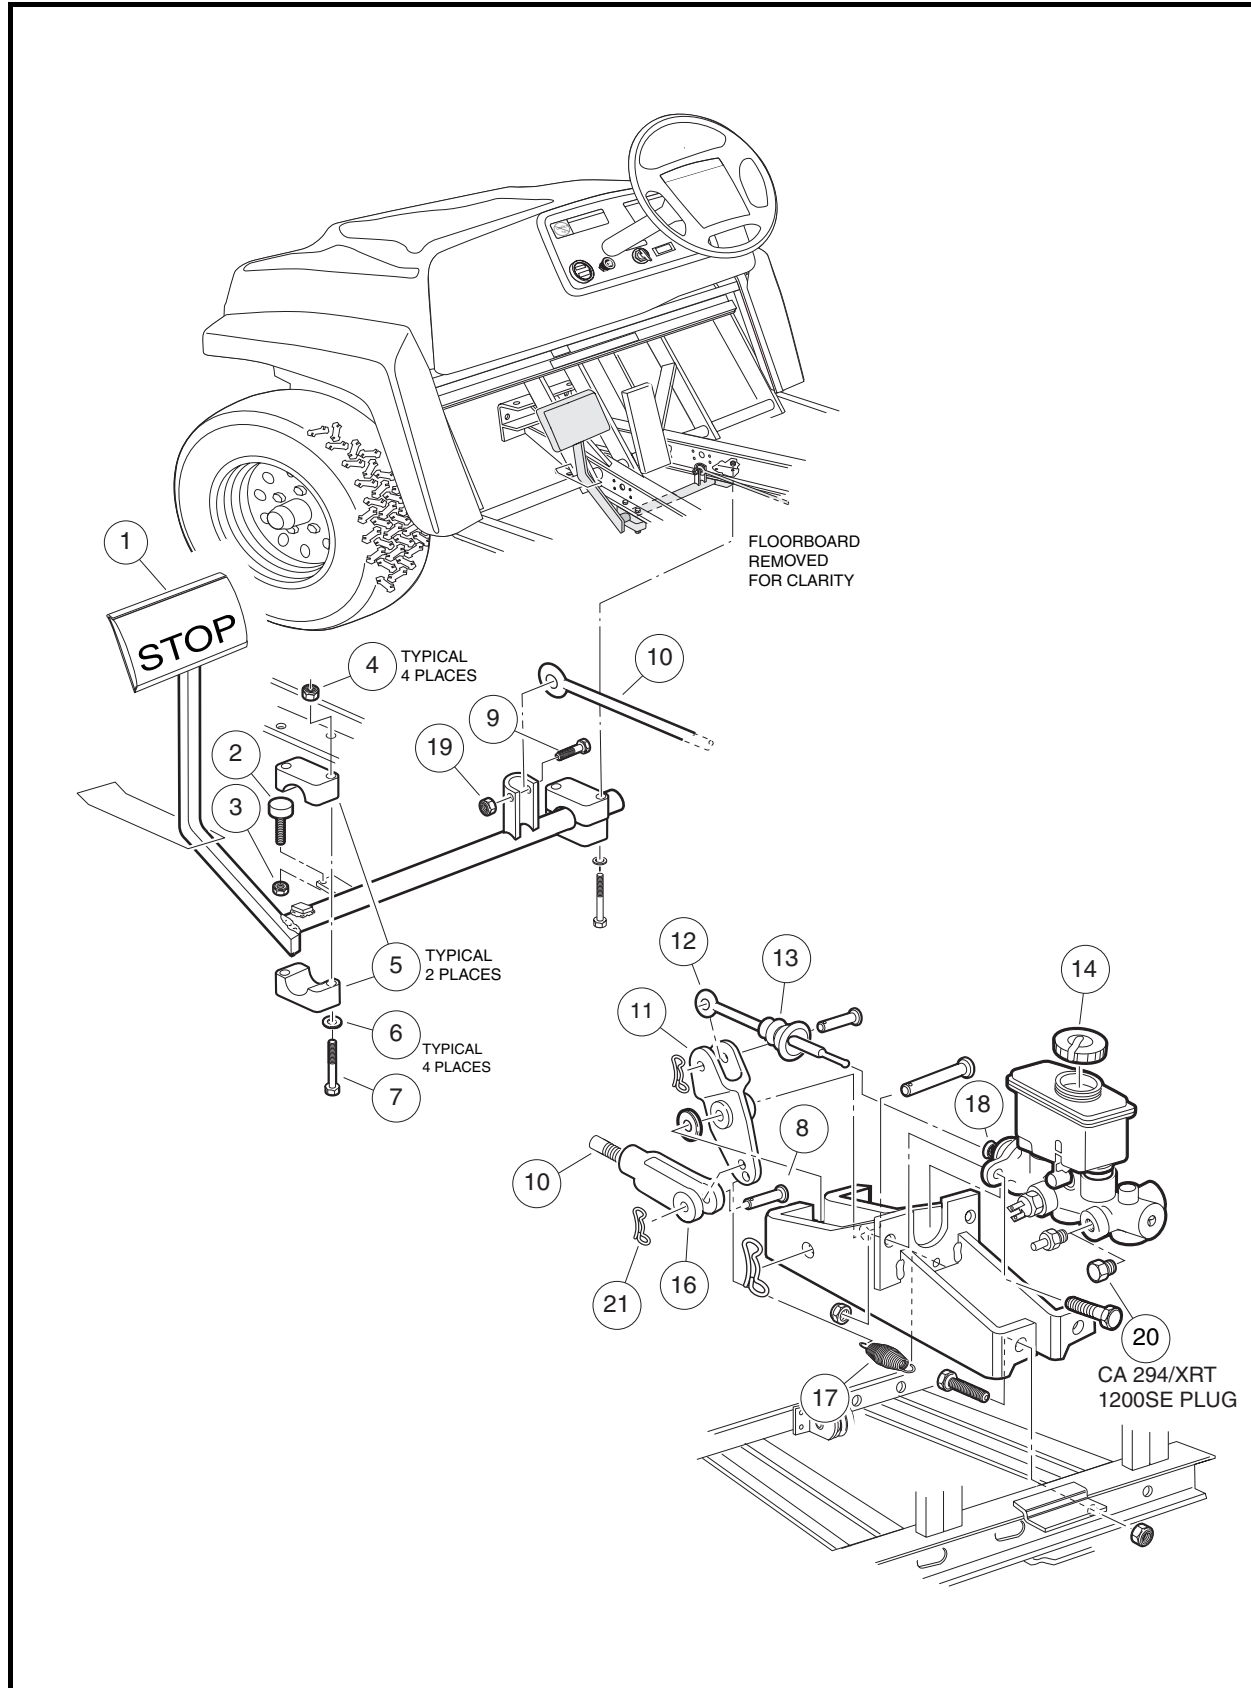
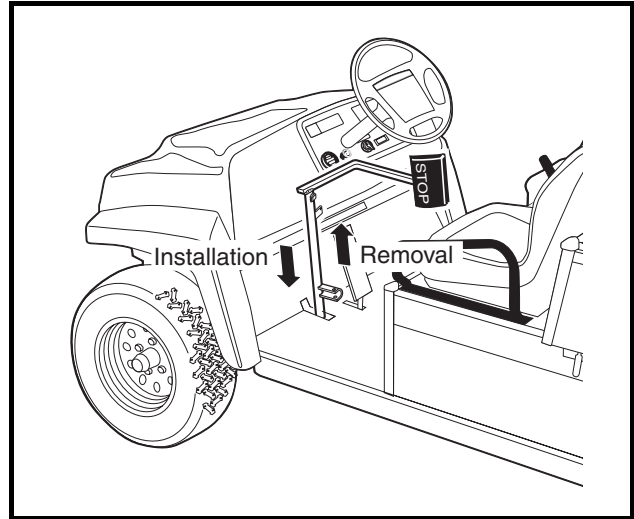
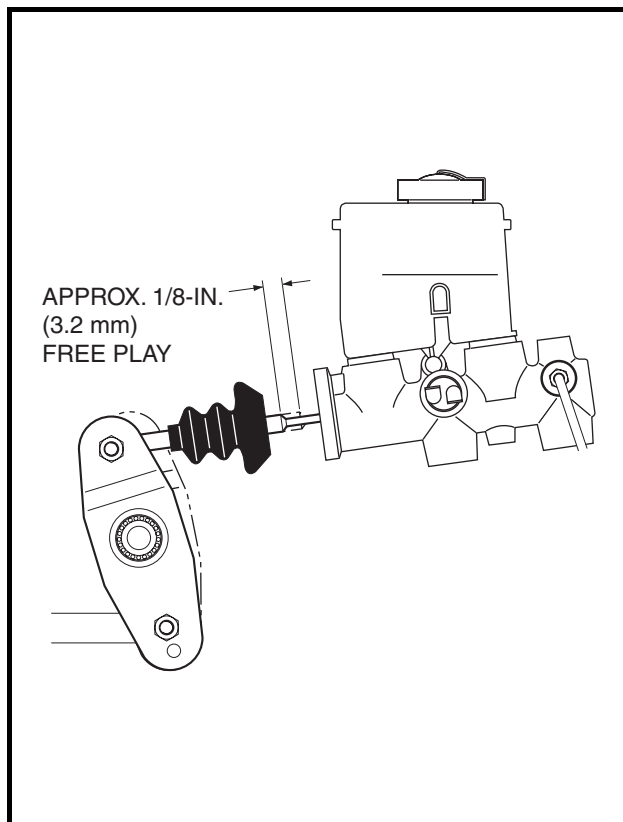

Figure 5-1 Brake Pedal Assembly
Figure 5-3 Brake Pedal Weldment Through Floor
Figure 5-6 Push Rod Free Play
- 4.1. Remove the bolt (9) and nut (19) (**Figure 5-1, Page 5-2**).
- 4.4. Lift pedal assembly through the floorboard (**Figure 5-3, Page 5-3**).
1. Insert the brake pedal assembly through the top side of the floorboard (**Figure 5-3, Page 5-3**) and install the brake pedal stop bumper (2) and nut (3) (**Figure 5-1, Page 5-2**) but do not tighten.
2. Position and attach brake pedal assembly and mounting blocks (5) with bolts (7), washers (6), and lock-nuts (4). Tighten to 70 in-lb (7.91 N·m) (**Figure 5-1, Page 5-2**).
3. Attach the equalizer rod (10) to the brake pedal assembly (1). Tighten to 17 in-lb (1.9 N·m).
2. Remove the brake rod clevis pin (8) and bow tie locking pin (21) from the brake push rod (16) and bell crank (11) (**Figure 5-1, Page 5-2**).
8. Adjust the clevis (16) by rotating it so that the clevis pin (8) can be placed through the clevis (16) and the bottom hole in the bell crank assembly (11) (Figure 5-1, Page 5-2). See following NOTE.
9. Install the bow tie locking pin (21).
10. There should be at least 1/8 inch (3.2 mm) of free play (at the push rod) before the push rod begins to press the master cylinder piston (Figure 5-6, Page 5-4). See following NOTE.
NOTE: Brake pedal free play is the distance the push rod (12) travels before the master cylinder piston (18) is pressed (Figure 5-1, Page 5-2). Also see Figure 5-6, Page 5-4.